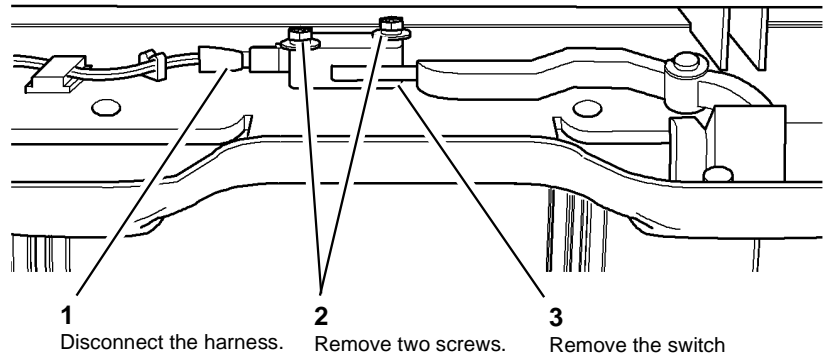

Figure 2 Remove tray 5 down limit switch
3. Remove the tray 5 down limit switch, Figure 2.